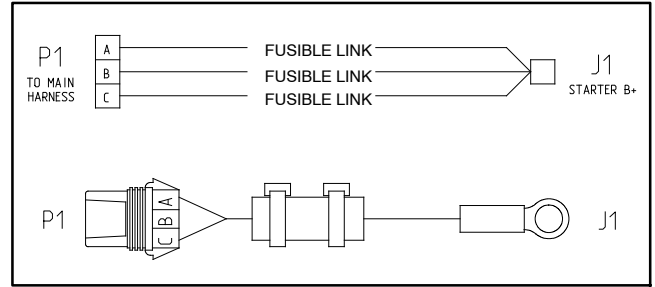

Figure 12
The Workman MDX-D uses four (4) fusible links for circuit protection. Three (3) of these fusible links are included in a wire harness that connects the starter B+ terminal to the vehicle wire harness (Fig. 12). The remaining fusible link is included in the engine wire harness and connects the starter G terminal to the engine run solenoid pull coil. If any of these links should fail, current to the protected circuit will cease. Refer to the electrical schematic and wire harness drawings in Chapter 7 - Electrical Drawings for additional circuit information.